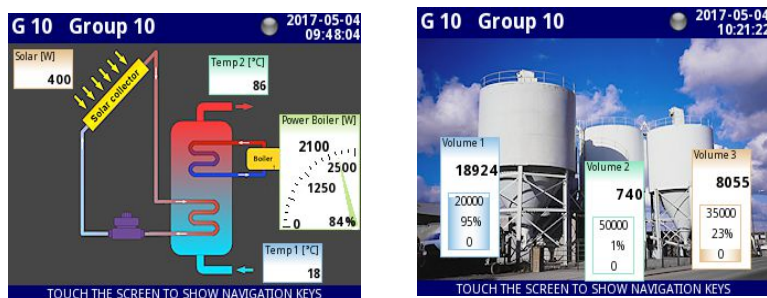

Fig. 6.14. Examples of **SCADALite** view
- as **SCADALite** view **Fig. 6.14**